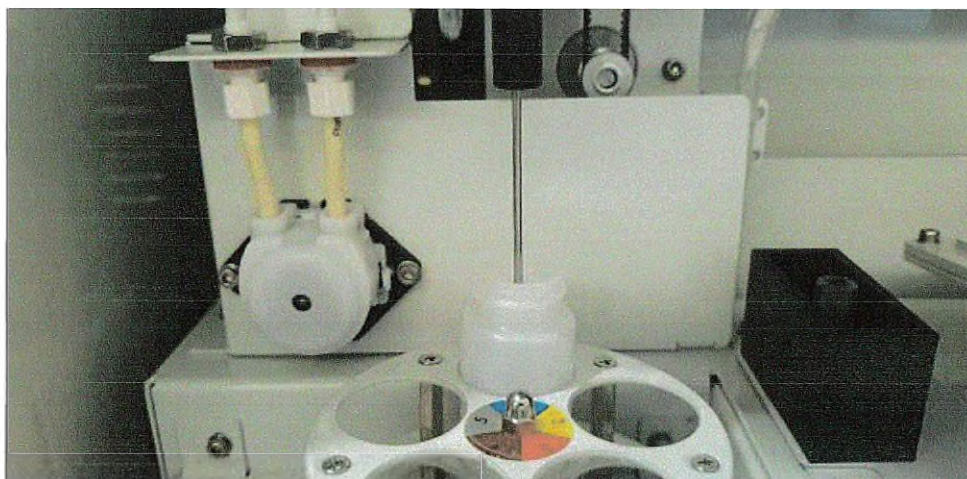

Figure 27
9.5.4.5 If you press the "CHECK" button, the probe will move downward [Figure 27].
9.5.4.6 After adjusting the probe position, press the CHECK button again and confirm the location (in the center of the reagent bottle) [Figure 27].